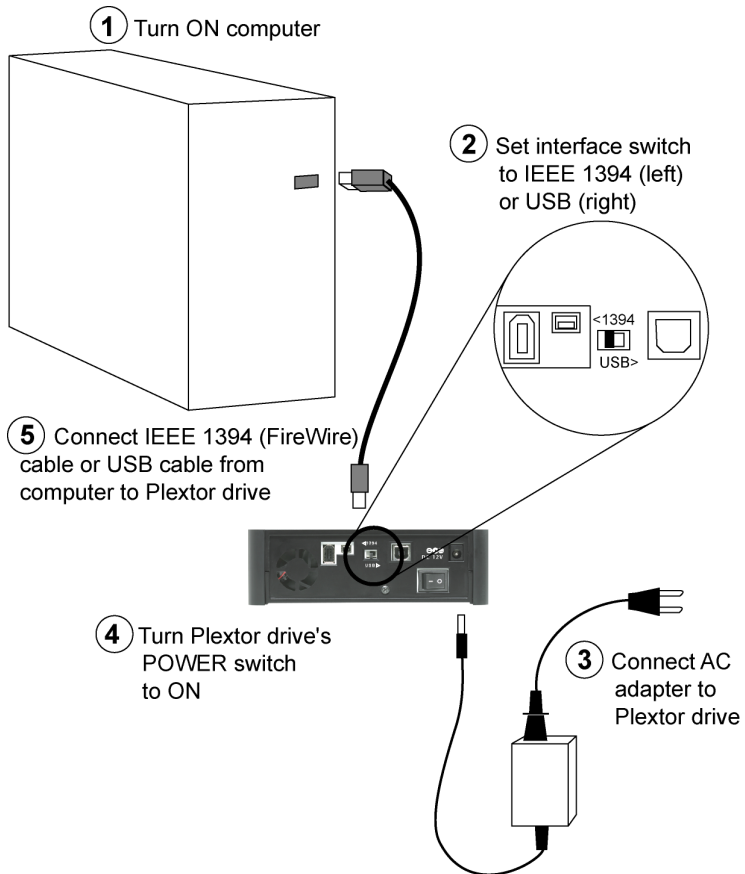

Figure 3: Connecting the AC adapter and USB or FireWire cable
3. Connect the AC adapter to your PX-740UF as shown in Figure 3.